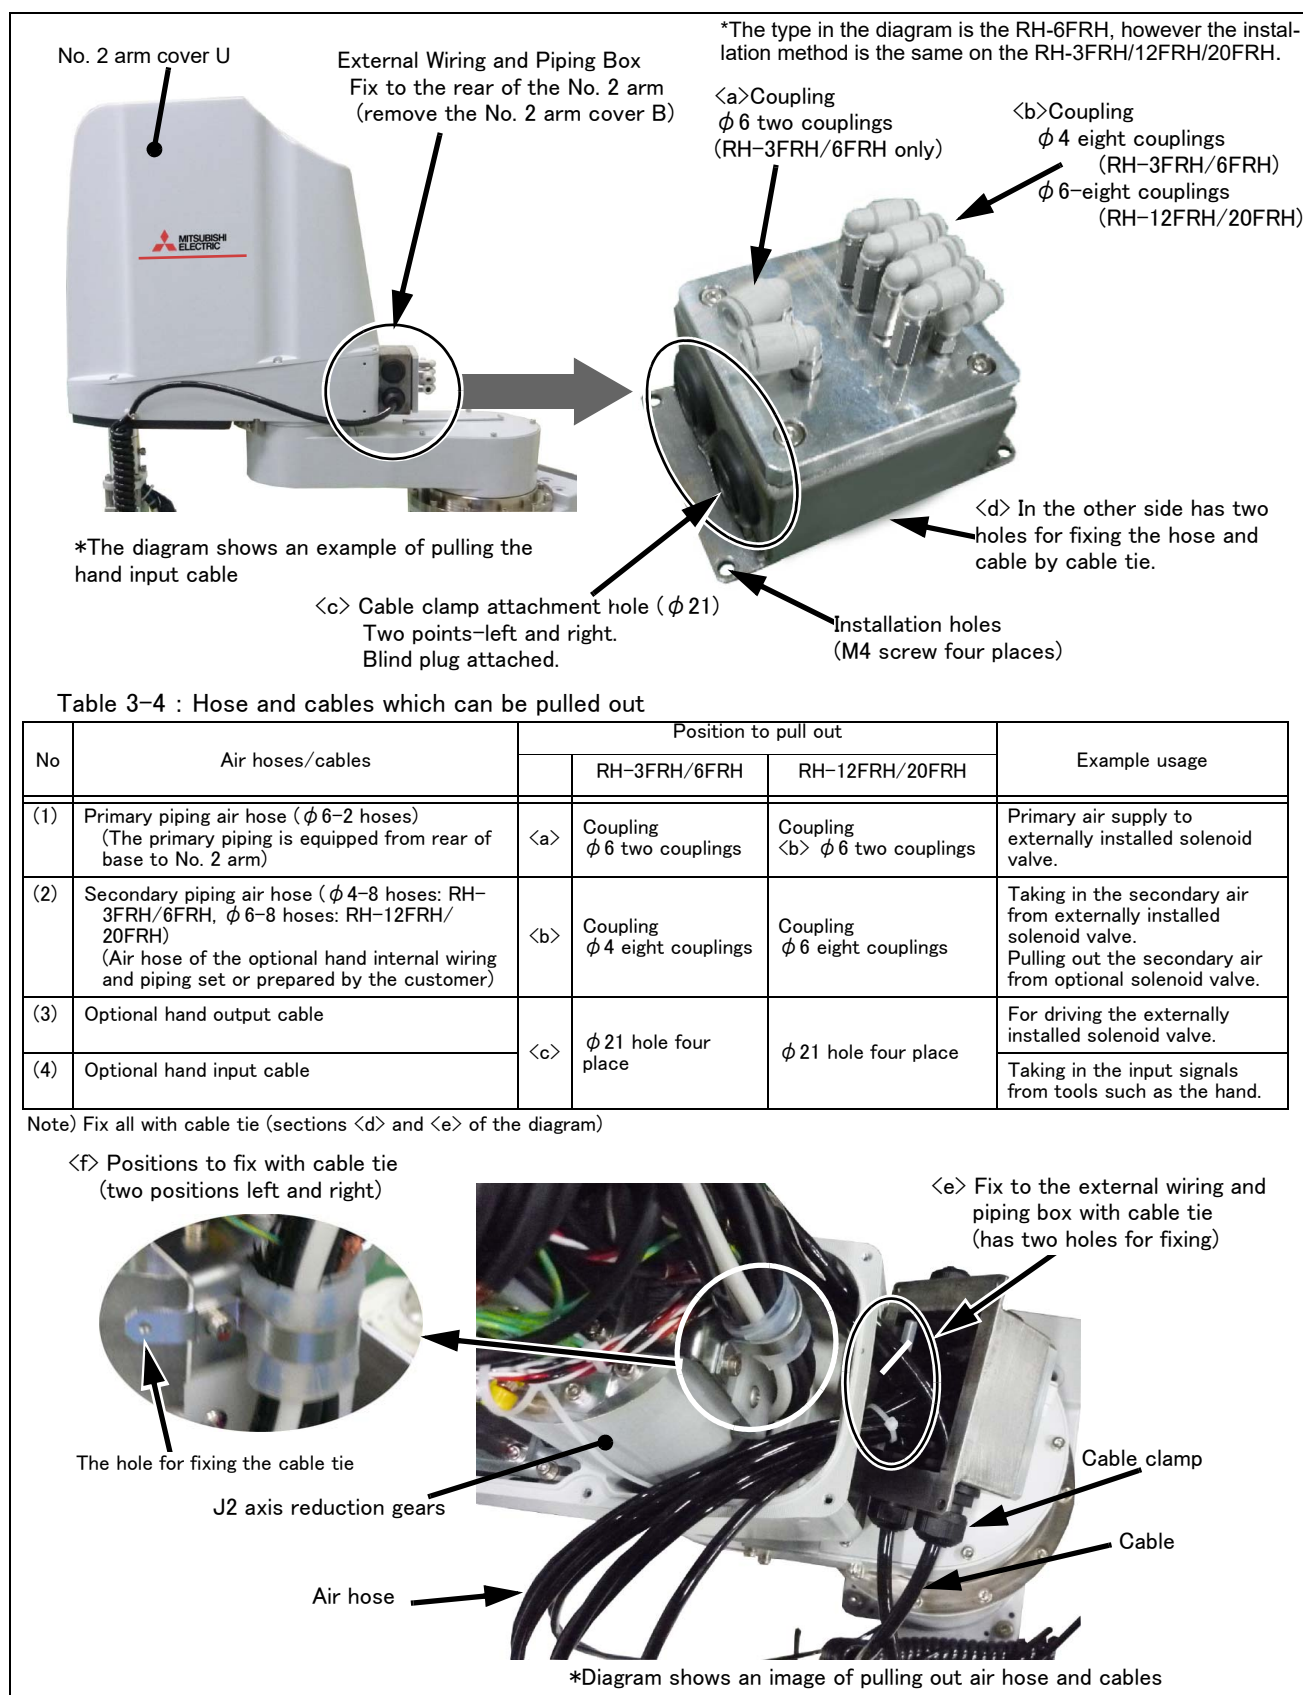

Fig.3-22 : External Wiring and Piping Box
Fig. 3-22 shows the installation procedure for the external wiring and piping box. The procedure is the same in RH-3FRH/6FRH/12FRH/20FRH. Remove the No. 2 arm cover B and install this option using the same screw holes. The installation procedure is shown below.
- 4) Fix the air hoses and cables to the hole inside of this box by using the attached cable tie. (section <e> of Fig. 3-22)
Fix the hoses and cables to the hole shown in section <f> of Fig. 3-22 using cable tie. There are 2 holes, located left and right.